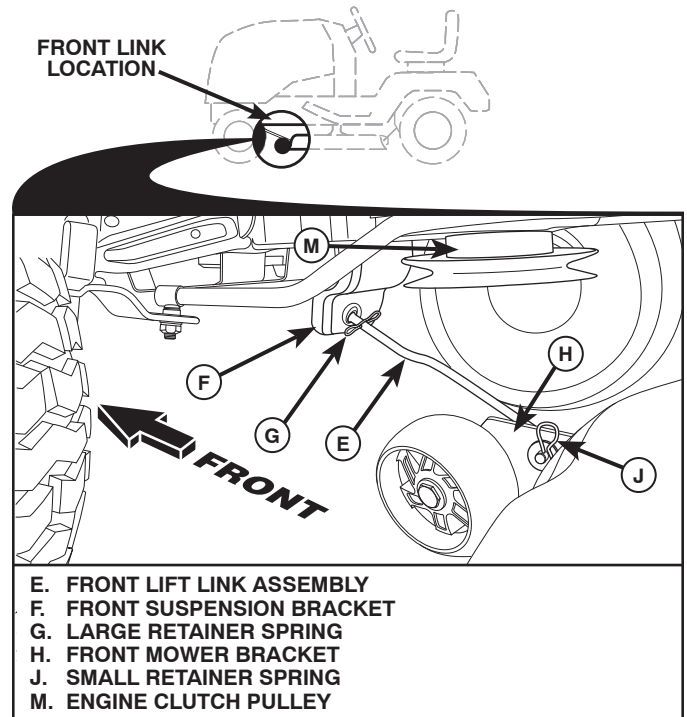

Fig. 31
## 8. ATTACH FRONT LINK (E) (See Fig. 31)
- From front of tractor, insert rod end of front link (E) through front hole in tractor front suspension bracket (F).
- Move to left side of mower and insert large retainer spring (G) through hole in front link (E) behind front suspension bracket (F).
- Insert other end of link (E) into hole in front mower bracket (H) and secure with washer and small retainer spring (J).